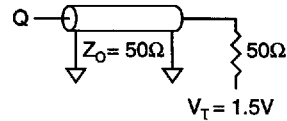

Figure 1
| Output load .....                   | See Figures 1 and 2     |
5. Test conditions as specified with the output loading as shown in Figure 1 unless otherwise noted.